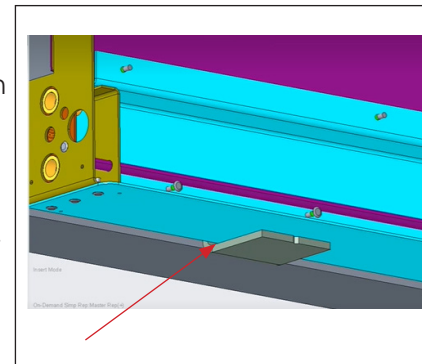

Figure 7: Shim Gap Between C-Clip and Display
4. Examine the lower end of the C-clip that is cradling the bottom of the panel. If necessary, place shim tape in the gap between the C-clip and the display. Refer to **Figure 7**.